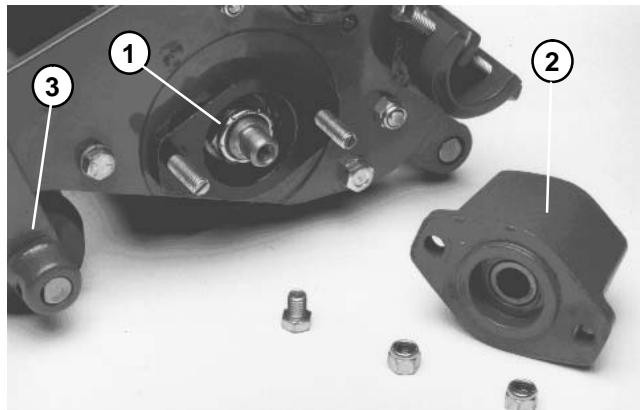

Figure 30
1. Remove the front roller assembly by removing lock nuts and cap screws securing the brackets to each side plate. Remove counterbalance end cap (Fig. 30)
2. Remove large bearing adjustment nut from the counterbalance end of the reel shaft and the special spline nut at the opposite end of the reel shaft (Fig. 30).
4. Install large bearing adjustment nut to the counterbalance end of the reel shaft and the special spline nut at the opposite end of the reel shaft (Fig. 30).
5. Install counterbalance end cap. Install front roller assembly by securing the brackets to each side plate with lock nuts and cap screws (Fig. 30).